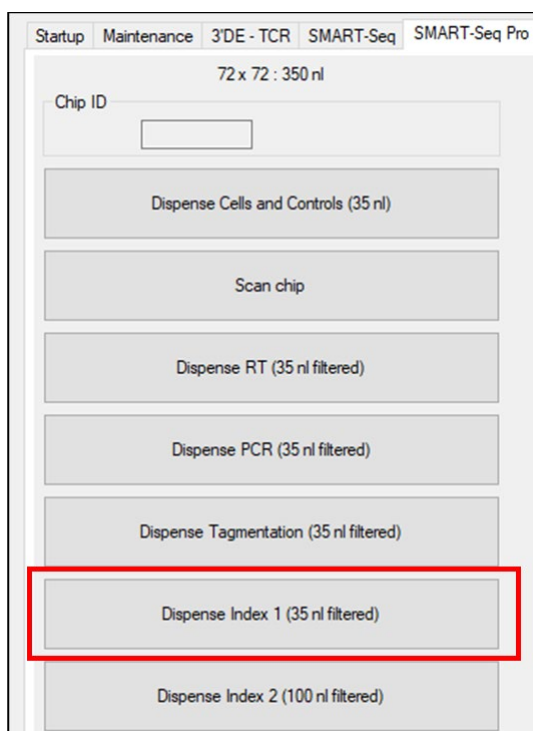

Figure 22. Using CELLSTUDIO software to dispense Index 1.
- At Step 8, click the [Dispense Index 1 (35 nl filtered)] button (Figure 22).